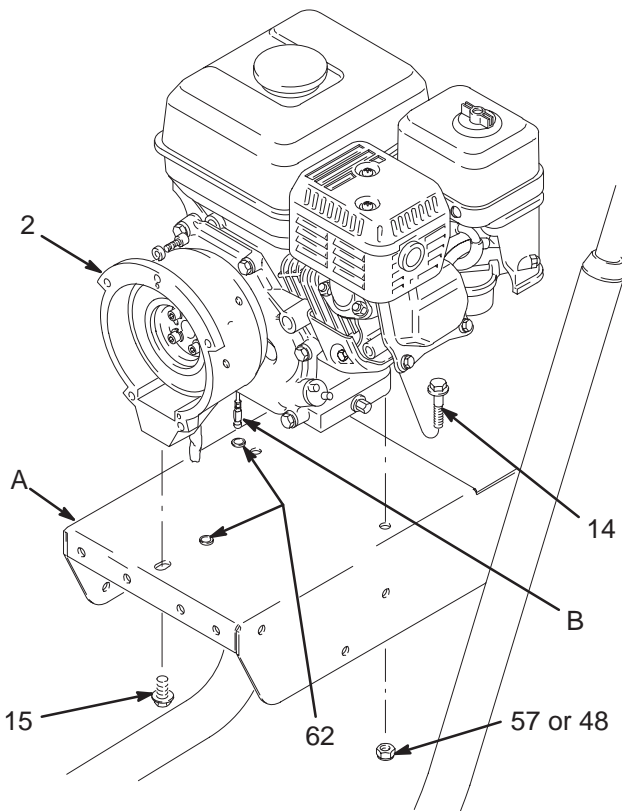

Fig. 17
1. Working under the mounting plate (A) of the cart, remove the screw (15) which holds the clutch housing (2) to the cart. See Fig. 17.
2. Still working under the mounting plate, remove the two locknuts (48 or 57), and then pull the screws (14) out of the base of the engine. Disconnect the red wire (D) from the engine lead (B). Disconnect the black and white wires (29) from the field. Pull the wires carefully through the grommets (62) before removing the engine. See Fig. 17 and 18.